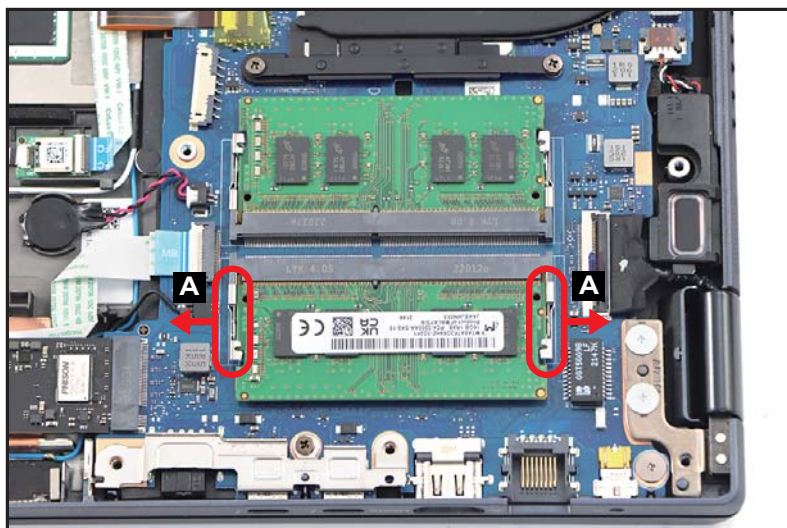

Figure 1-10. DIMM Modules Removal
1. Push the DIMM module clips (A) outwards (Figure 1-10).